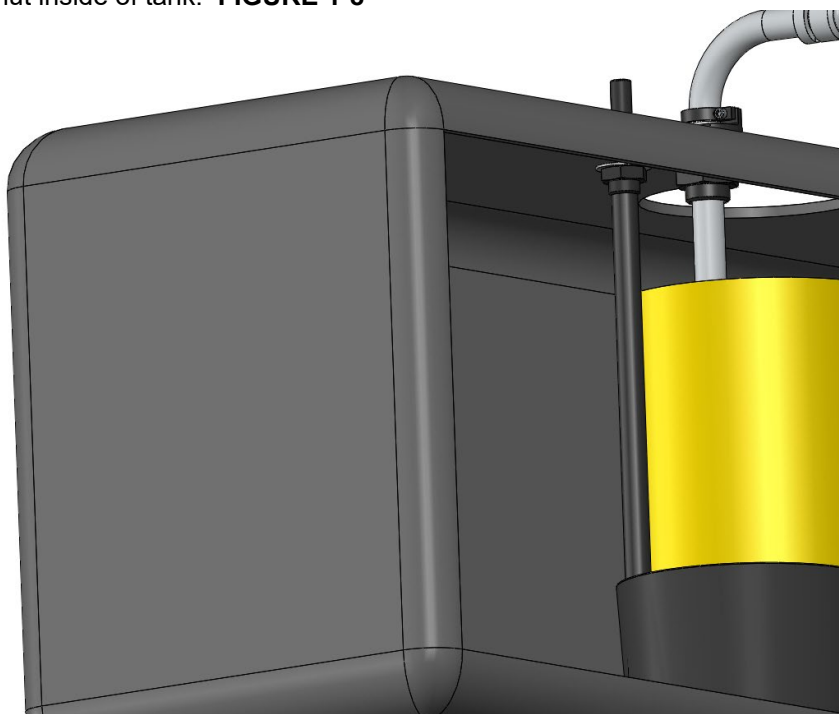

FIGURE 1-8
10. As you are inserting the return tube into the tank, guide the tube in between the black rubber basket and yellow foam. Once installed, tighten lock nut inside of tank. **FIGURE 1-8**